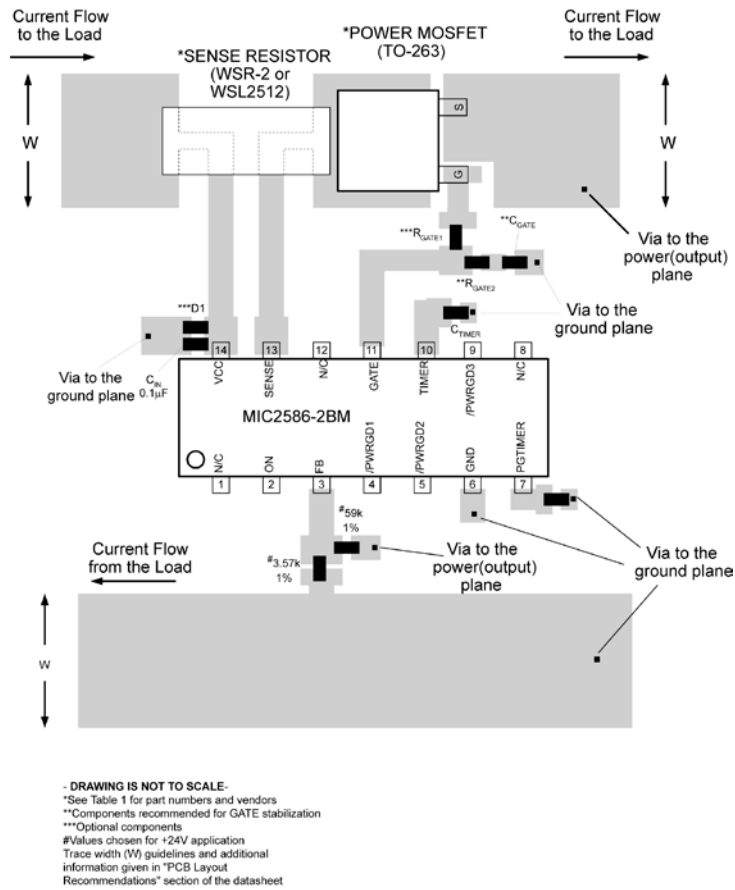

Figure 10. Recommended PCB Layout for Sense Resistor, Power MOSFET, Timer, and Feedback Network
Figure 10 is a recommended PCB layout diagram for the MIC2586-2BM. Many hot swap applications will require load currents of several amperes. Therefore, the power ( $V_{CC}$  and Return) trace widths ( $W$ ) need to be wide enough to allow the current to flow while the rise in temperature for a given copper plate (e.g., 1oz. or 2oz.) is kept to a maximum of 10°C to 25°C. Also, these traces should be as short as possible in order to minimize the IR drops between the input and the load. The feedback network resistor values in Figure 10 are selected for a +24V application. The resistors for the feedback (FB) and ON pin networks should be placed close to the controller and the associated traces should be as short as possible to improve the circuit's noise immunity. The input "clamping diode" (D1) is referenced in the typical application circuit. If possible, use high-frequency PCB layout techniques around the GATE circuitry (shown in the typical application circuit) and use a dummy resistor (e.g.,  $R_3 = 0\Omega$ ) during the prototype phase. If  $R_3$  is needed to eliminate high-frequency oscillations, common values for  $R_3$  range between 4.7Ω to 20Ω for various power MOSFETs. Finally, the use of plated-through vias will be needed to make circuit connection to the power and ground planes when utilizing multi-layer PCBs.